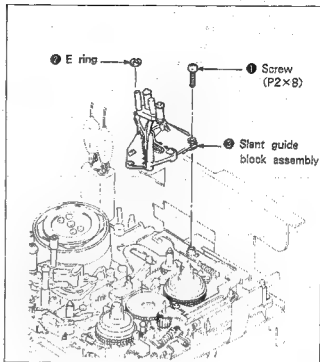

Fig. 7-26.
Removal (See Fig. 7-26.)
- 3 Insert the E ring ② and tighten with screw ①. (See Fig. 7-26.)